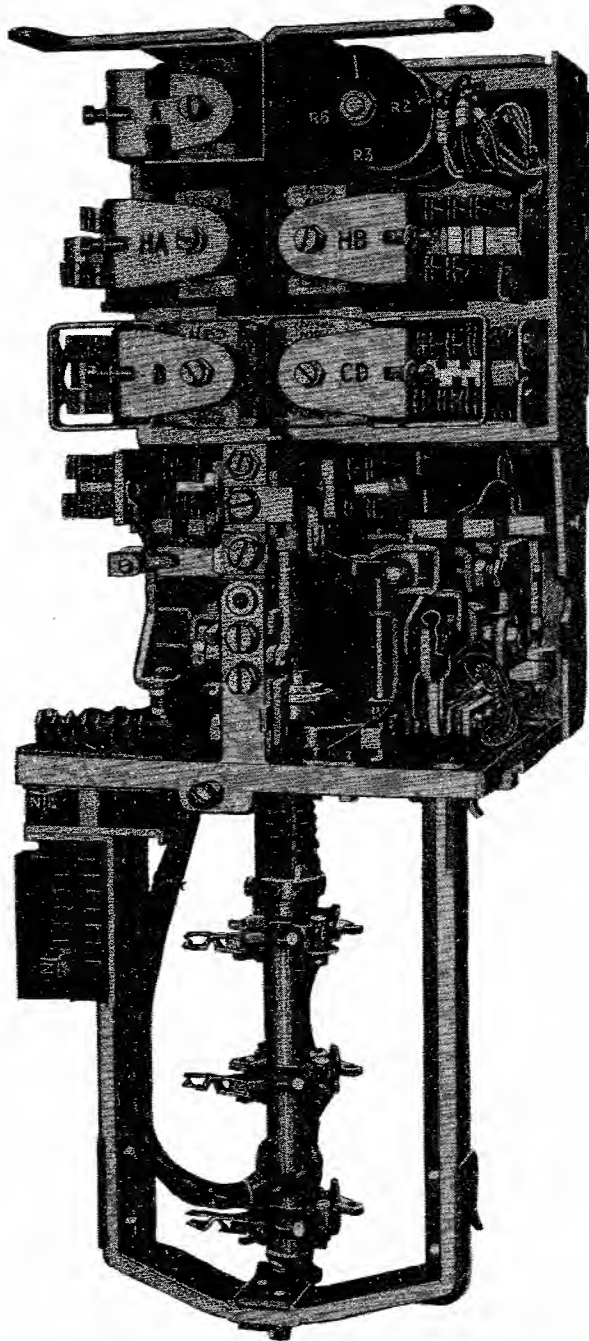

FIG. 1. SE.50 SELECTOR.
- 2.1 The parts of the selector, illustrated in Figs. 1 to 9 are grouped functionally and appear on even numbered pages of this E.I. as follows -